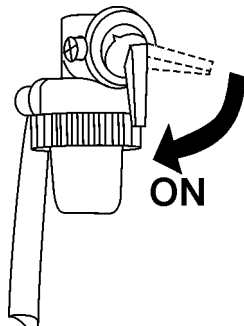

Figure 11. Engine Fuel Valve Lever (ON Position)
1. Place the engine **fuel valve lever** (Figure 11) to the "ON" position."